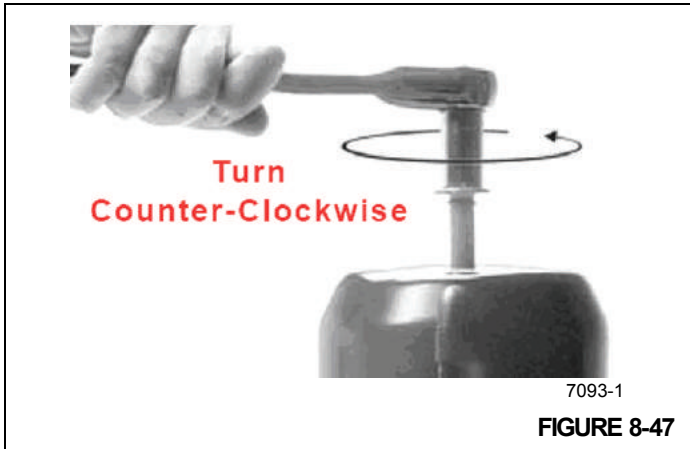

FIGURE 8-47
2. Turn the integral release bolt counterclockwise using a 3/4 inch (19 mm) socket wrench (Figure 8-47), until the power spring is fully caged or compressed. Full cage position requires approximately 22 to 23 turns for 76 mm (3.00 in) stroke units.